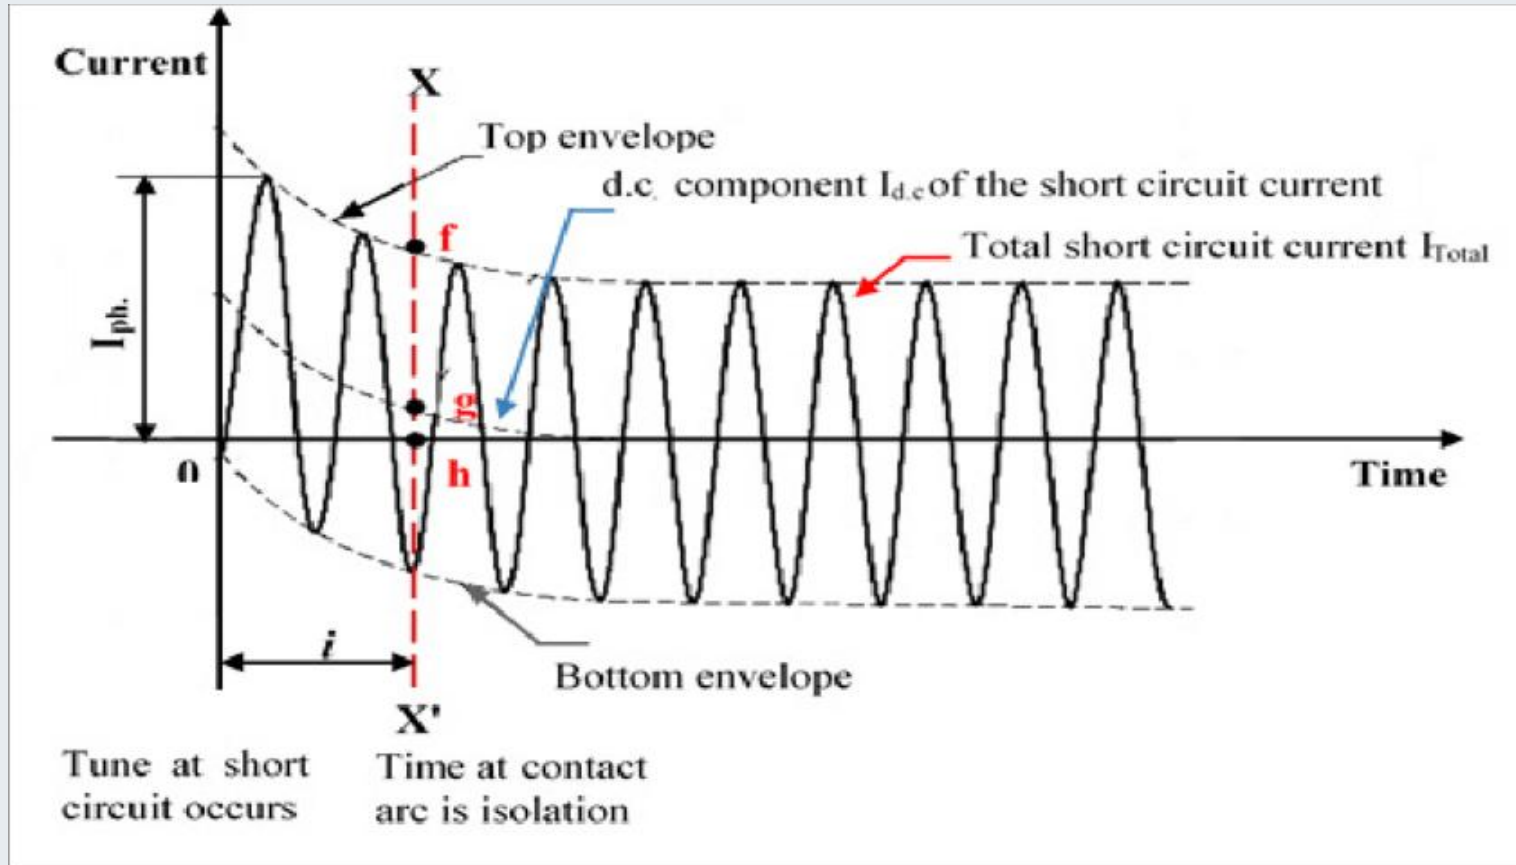

Figure 4. Short-circuit current envelop of transmission line.
- The overall short-circuit current of transmission line is presented in Fig.4
Url: <https://www.researchgate.net/publication/323244764/figure/fig4/AS:667649172336651@1536191375287/Representation-of-a-generator-as-a-constant-voltage-source-behind-transient-reactance.jpg>